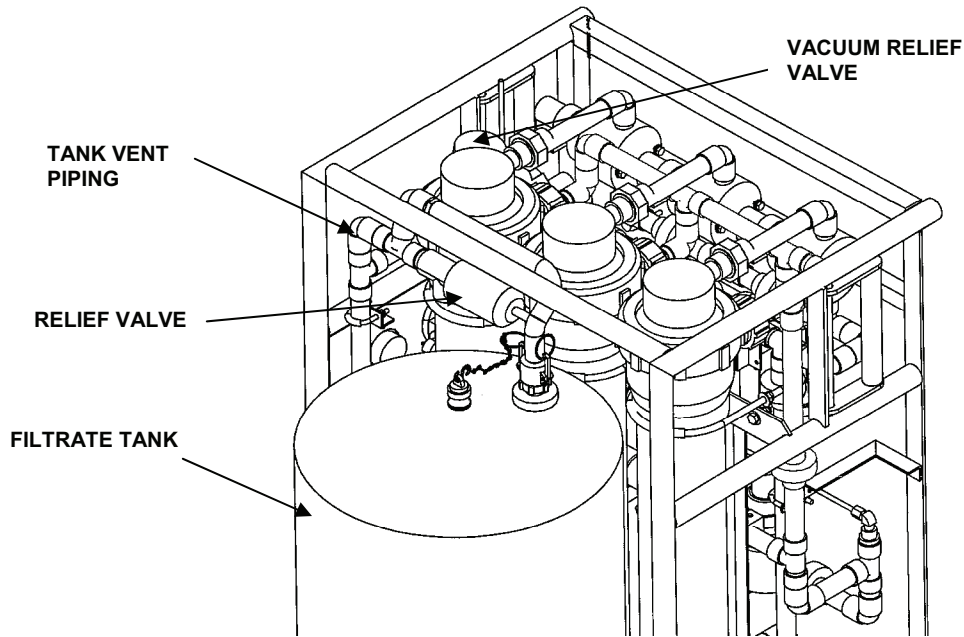

Figure 9. Pressure Relief Valve Location.
Unthread the pressure relief valve from the tank vent piping. See Figure 9.
1. Vacuum relief valve is located on the tank vent piping. See Figure 9.
1. Refer to Figure 9 for this procedure section.